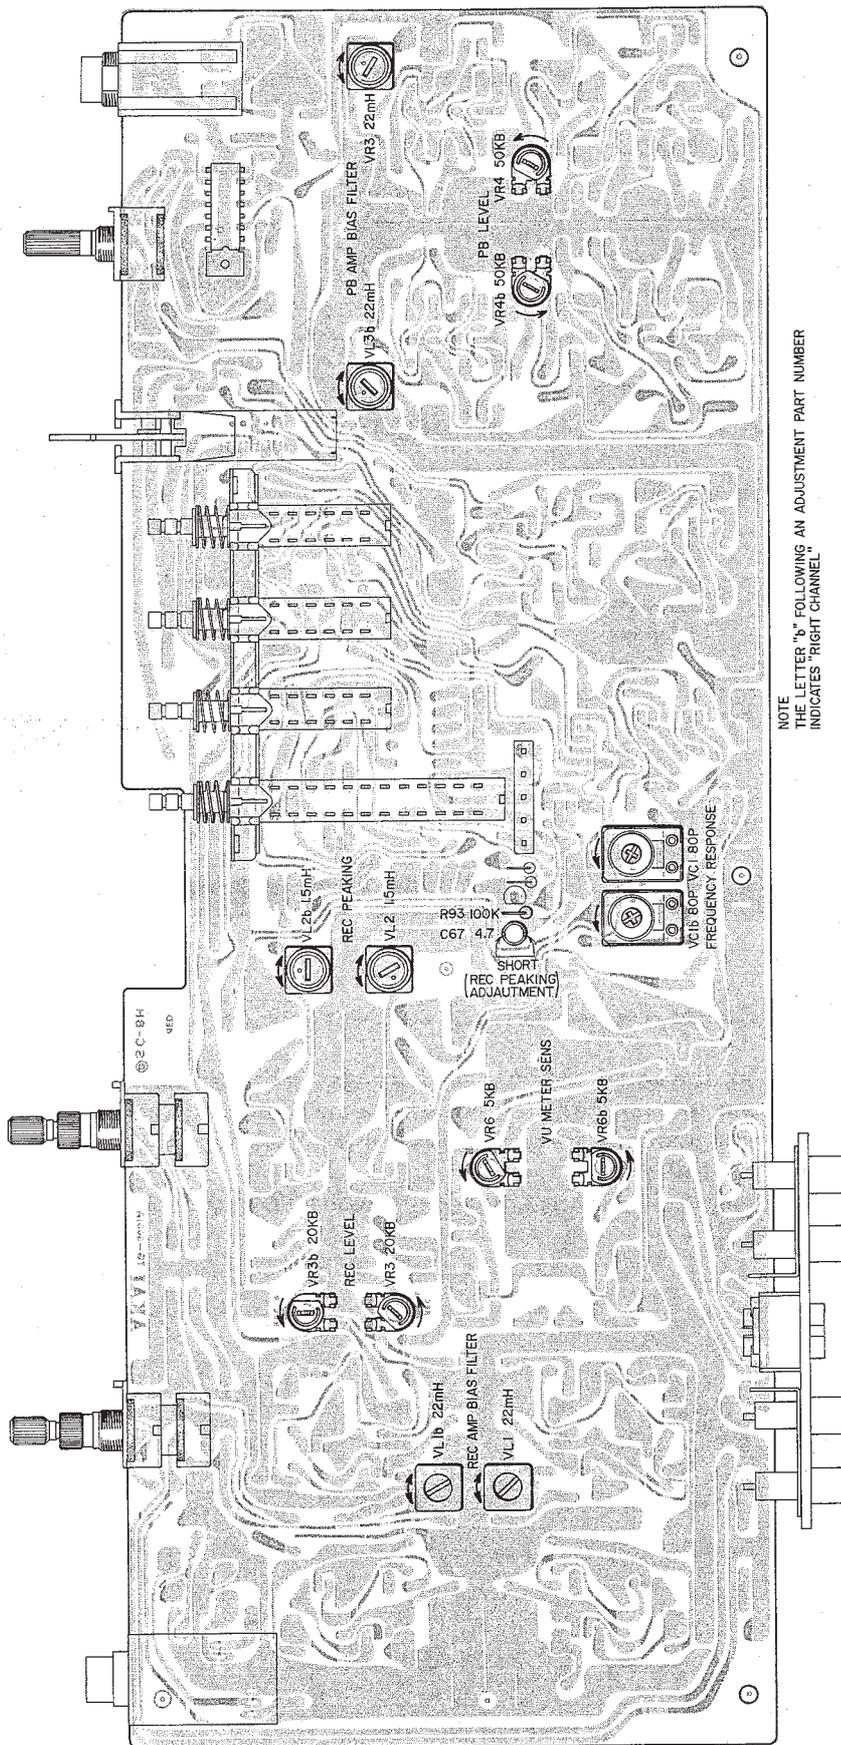

Fig. 36 Pre Amp P.C Board TG-5001A
4. Stop recording bias oscillator while making Rec Peaking Adjustment. (Refer to Fig. 36)